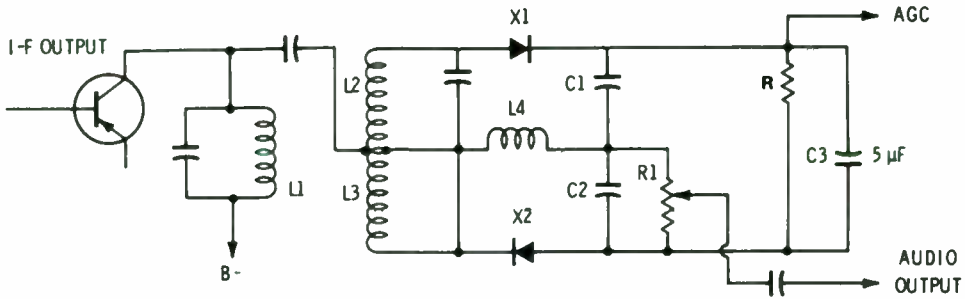

Figure 19 — Practical form of ratio-detector circuit.
In practical circuits, the value of V_B is not determined by a fixed battery, but by the average value of each incoming carrier. This idea will be better understood by examining Figure 19, a practical form of ratio detector.
capacitive connection between L_1 and the secondary tap, we now introduce L_4 . Using the same reasoning as was applied in our earlier discussion of discriminators, we see that the voltage induced in L_4 (which is closely coupled physically to L_1) will remain constant as long as the primary voltage is constant. Since the voltage across L_4 depends upon the voltage across L_1 , and not upon the secondary circuit, it can be used as the reference voltage in place of the previous capacitive-coupled arrangement of Figure 19.
8. The strength of the incoming signal in the ratio detector of Figure 19